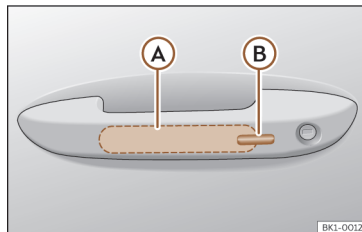

Fig. 69 Driver door lever: sensor surfaces.
>>> **Fig. 69**
• Touch the sensor surface >>> **Fig. 69 (B)** on the outside of the door handle. All turn signals flash *once*.
- Within 5 seconds, touch the sensor on the outside of the door handle >>> **Fig. 69 (B)** once. Do not grip the handle while doing so. This temporarily deactivates the Keyless Access system.
To close all the electric windows and the sunroof using the **comfort function**, keep a finger for a few seconds on the locking sensor surface >>> **Fig. 69 (B)** of the door handle until the windows and roof have closed.